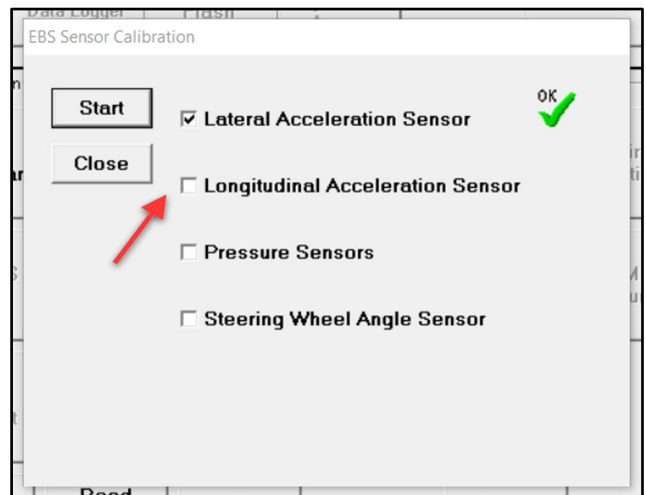

Figure 15
27. Click "Longitudinal Acceleration Sensor" (refer to Figure 15).